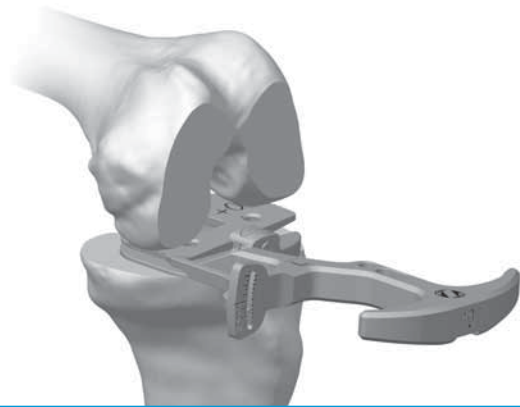

Fig. 33
- Remove the *Zimmer FuZion* Spacer Block from the extension gap. Dissassemble the *Zimmer FuZion* +9mm Femoral Paddle from *Zimmer FuZion* +0mm Femoral Paddle. Bring the leg into 90° of flexion. Insert the *Zimmer FuZion* Spacer Block between the cut tibial surface and the uncut posterior condyles, as shown (Fig. 33).